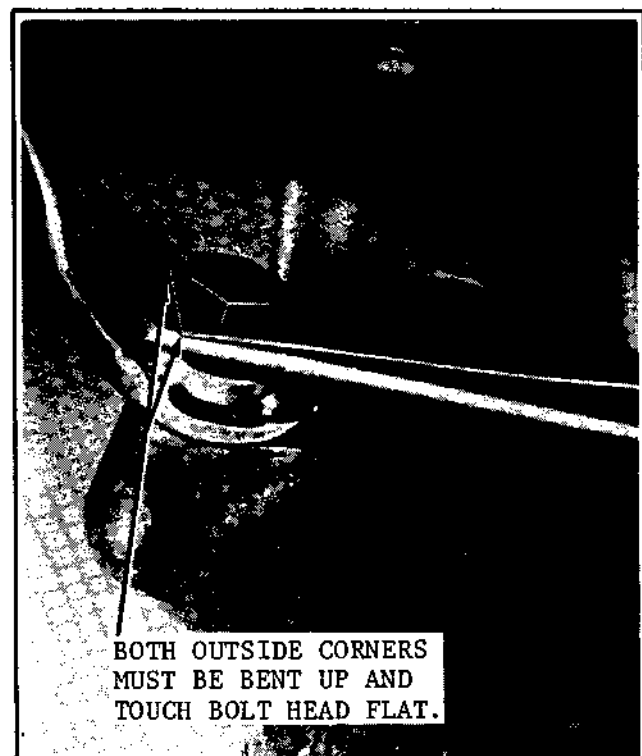

FIGURE 5. FENDER BRACKET MOUNTING
19. After the front bumper hardware is secure, then torque four yellow colored fender mounting bolts to 20 ft-lbs torque. After torquing, bend both outside end corners of lock plate in to touch the flat of each bolt head. (See Figure 5.)